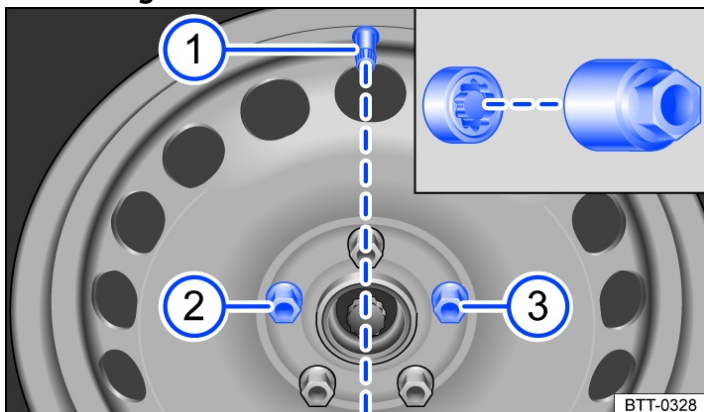

Fig. 2 Changing a wheel: tyre valve ① and locations of the anti-theft wheel bolt ② or ③.
On wheels with a wheel cover, the anti-theft wheel bolt must be screwed in at position → Fig. 2 ^② or ^③ according to the position of the tyre valve ^①. The wheel cover can otherwise not be fitted.